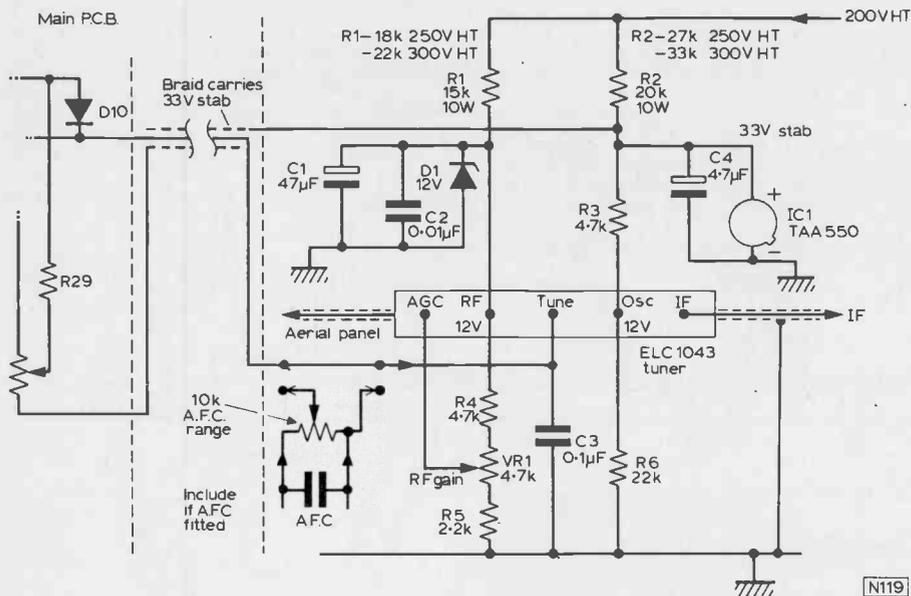
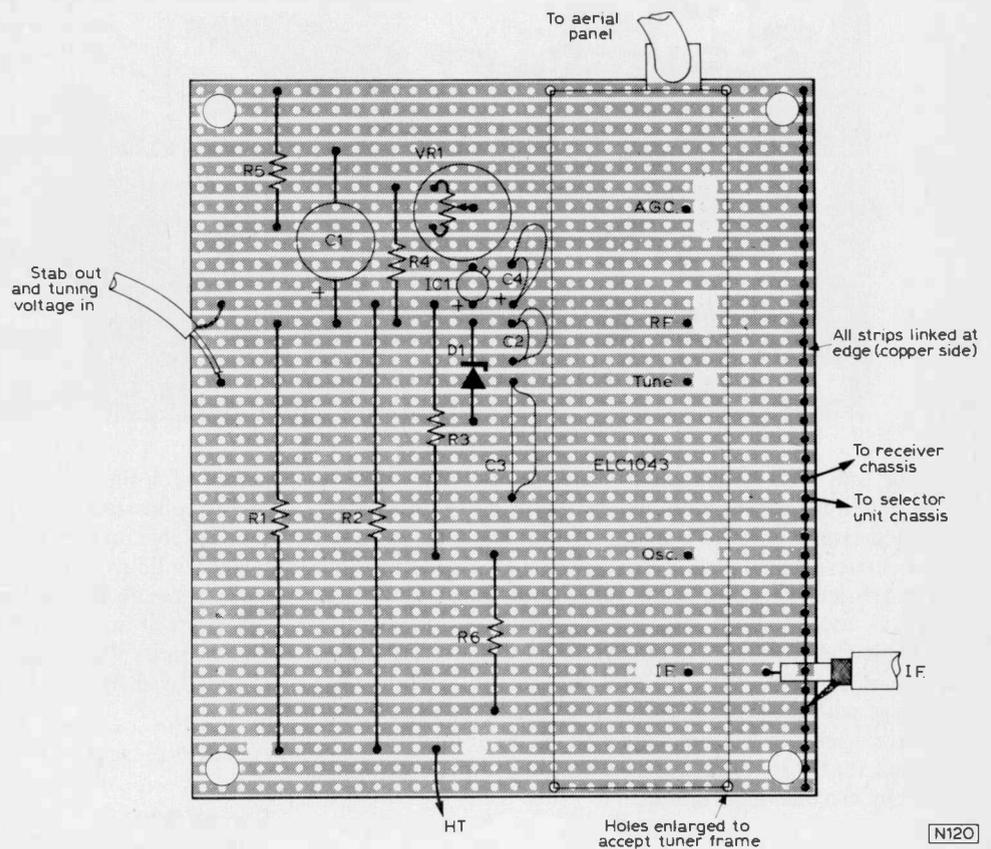

Fig. 8: Suggested circuit for using a varicap tuner in place of a mechanical tuner.
Fig. 9: A suitable stripboard layout for the circuit of Fig. 8, viewed from the component side.
*NOTE - Value varies with receiver h.t. line voltage. See Fig. 8.
Obviously this unit cannot be used with a receiver fitted with a mechanical tuner. It may well be feasible to modify such a set to use a varicap tuner, and a suggested circuit for obtaining the necessary power supplies is given in Fig. 8. A suitable stripboard layout is shown in Fig. 9. Note that the values of R1 and R2, the power supply dropping resistors, depend upon the h.t. rail voltage of the particular receiver used.